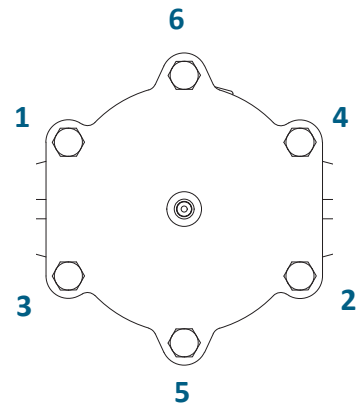

Fig. 10
3. Install bolts(1) into reference cap(2). Flip reference cap and bolts upside down on a clean, flat surface.
4. Carefully place reference cap O-ring(3) inside the groove of the reference cap(2).
6. Lay diaphragm(4) centered onto reference cap(2), aligning bolts and holes.
7. Insert upper seat plate O-ring(5) into the top groove of the seat plate(6). If O-ring rests on inner groove wall, then slightly stretch the O-ring so it rests on the outer wall of the groove.
8. Invert seat plate(6) with O-ring onto diaphragm, aligning bolts with holes and taking care not to allow O-ring to fall out.
10. Carefully align the body(8) inlet, outlet and bolt holes up with the seat plate(6) and cap(2) subassembly built in steps 1-7 and lay on top.
12. Tighten all bolts one at a time in a star pattern (see torque pattern shown in **Fig. 10**). Torque the bolts using the recommended torque wrench settings referenced in the table below.